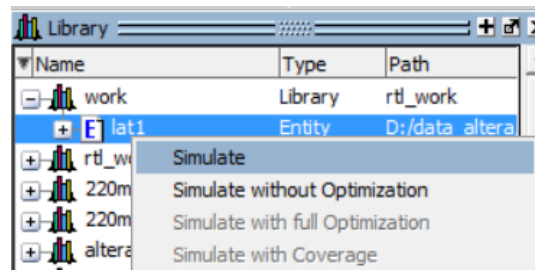

Figure 16. Command to perform simulation
3. Right click on lat1 then click simulate (see figure 16), so